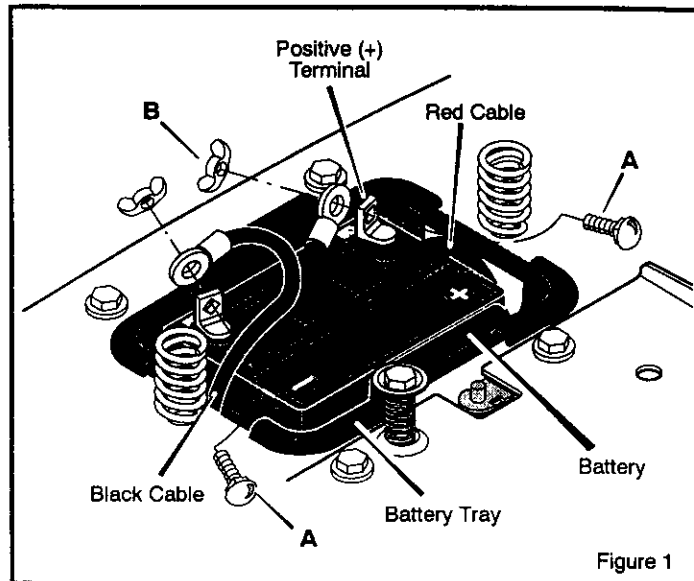

Figure 1
1. Check the top of the battery for the location of the battery date (Figure 1).
2. Fasten the red cable to the positive (+) terminal with the fasteners as shown (Figure 1).